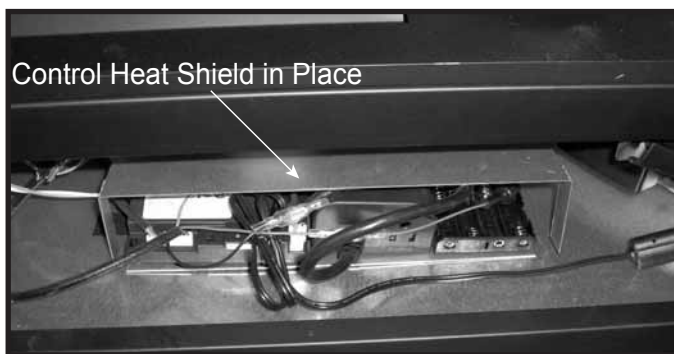

Figure 11.16 Control Heat Shield - Installed
- Verify that the control heat shield is installed and legs are on bottom pan of appliance. See Figure 11.16.